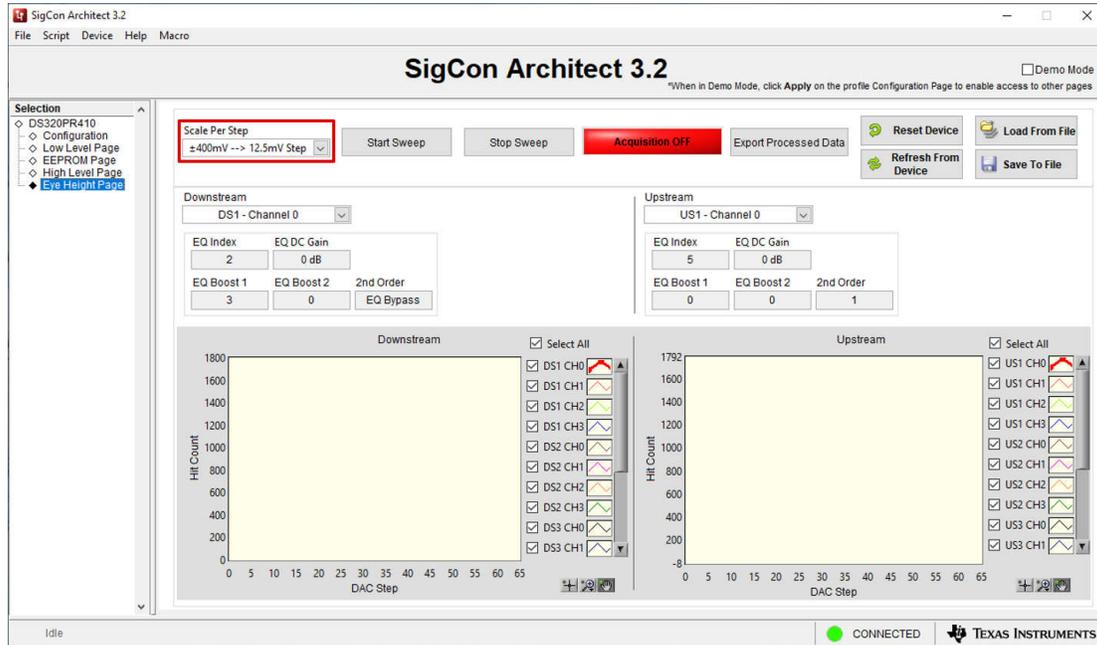

Figure 6-1. Eye Height Page: Scale Per Step
1. Select the desired *Scale Per Step* as shown in Figure 6-1 for the *EyeScan* capture. This parameter determines the captured voltage range of the *EyeScan* operation, providing four options for added granularity if desired. By default, this parameter is set to $\pm 400\text{mV}$ (12.5mV Step).